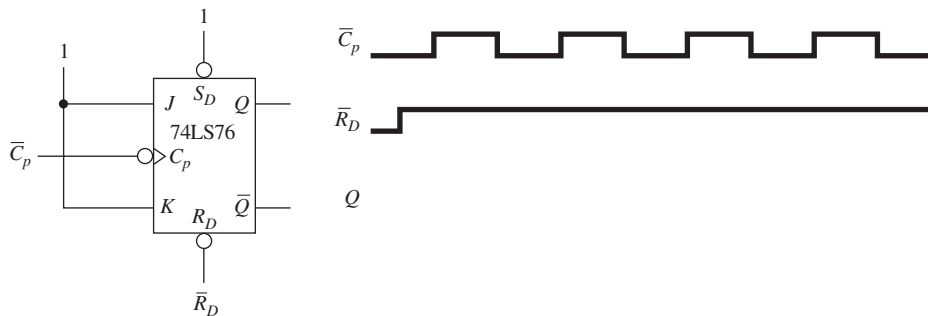

Figure P28
28. Sketch the output waveform at Q for Figure P28.